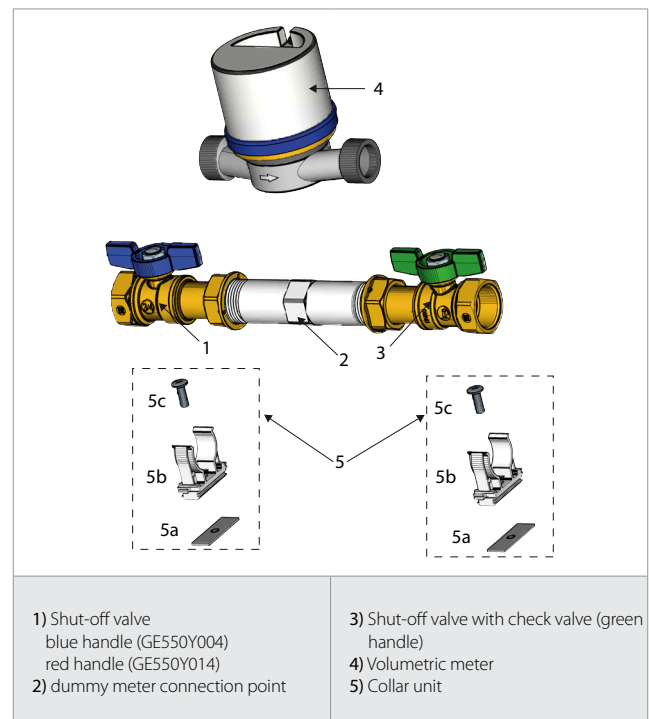

Figure 6 – Components included
The components described in figure 6 are contained within the packaging. The two shut-off valves (1 - 3) are connected to the connection point (2) and sealed using appropriate devices.